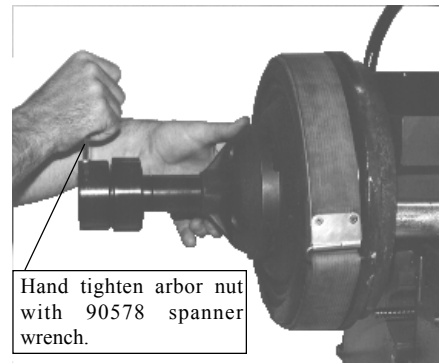

Figure 14
D. IMPORTANT: Do not overtighten arbor nut when mounting drums or rotors on the spindle. Usually the pressure of one hand with the Spanner Wrench engaged in the arbor nut is sufficient to tighten. See Figure 14. If spacers and adapters are not clean and free of nicks, burrs or foreign matter when the arbor is tightened, it could introduce spindle runout. This can be detected by observing the end of spindle when the arbor is revolving. If this occurs, check spacers and adapters for nicks, etc., to be sure they are smooth and clean and that the arbor nut is properly tightened.
E. Wrap a 90988 silencer around the drum (snug, but not too tight). See Figure 14. The rubber silencer deadens vibration of the drum while Machining. A brake drum is like a bell and
E. IMPORTANT: Do not overtighten arbor nut when mounting rotors on the spindle. Usually the pressure of one hand with the spanner wrench engaged in the arbor nut is sufficient to tighten. **See Figure 14.** If spacers and adapters are not clean and free of nicks and burrs or foreign matter when the arbor is tightened, it could introduce spindle runout. This can be detected by observing the end of the spindle when the arbor is revolving. If this occurs, check spacers and adapters for nicks, etc., to be sure they are smooth and clean and that the arbor nut is properly tightened.